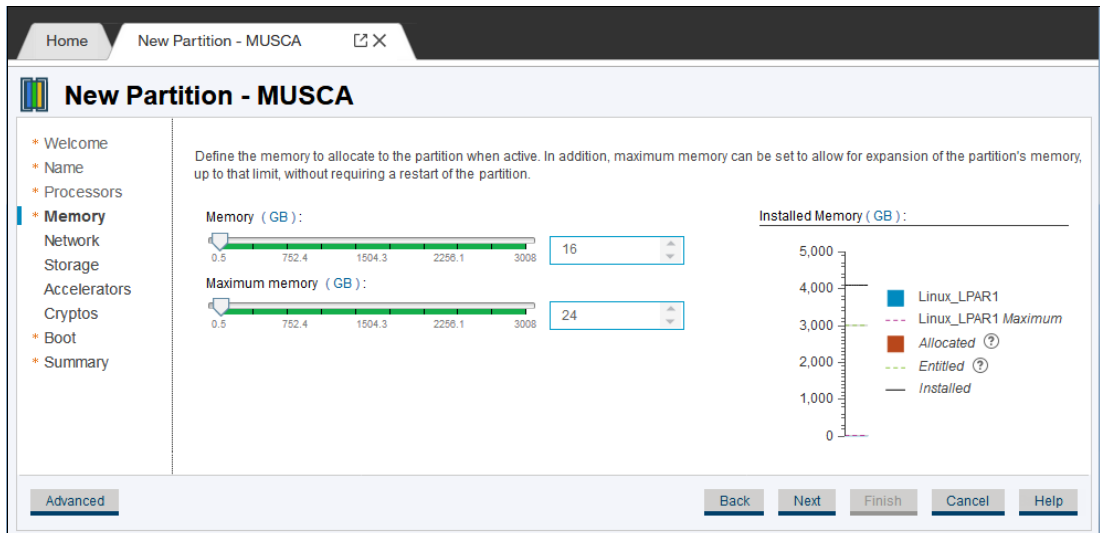

Figure 16-34 Memory selection
5. In the next menu (see Figure 16-34), we select the amount of memory to be made available for our partition. The “desired” amount is 16 GB and the maximum amount is 24 GB.